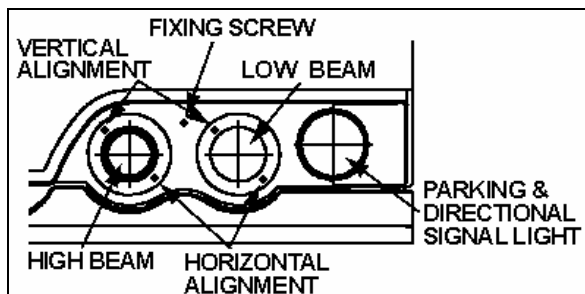

FIGURE 24: HEADLIGHT ASSEMBLY 06546
Headlight aim should be checked after installing a new bulb. Aiming can be performed without opening headlight assembly. Horizontal and vertical aiming of each module is provided by two adjusting screws that pivot the module in the housing for proper alignment (fig. 24). There is no adjustment for focus since the module is set for proper focus during manufacturing assembly.
- Remove the headlight screw fixing the headlight assembly, then tilt headlight assembly down (Fig. 24 and 25).
2. Remove the headlight screw fixing the headlight assembly, then tilt headlight assembly down (Fig. 24 and 25).